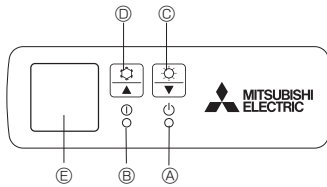

Fig. 9-1
- [Fig.9-1] (A) DEFROST/STAND BY lamp